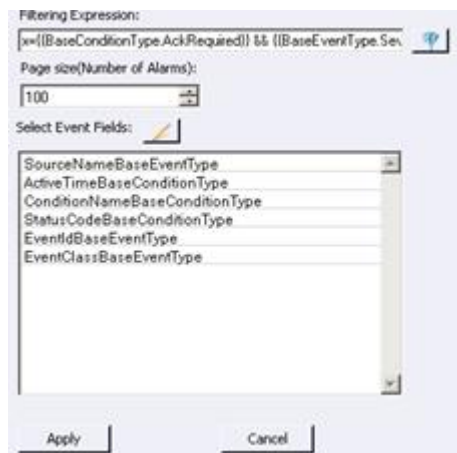

Figure 9 - Historical Alarm Configuration
16. To view report data in the selected output range of the Microsoft Excel spreadsheet, update the report . Your results should look similar to Figure 9.